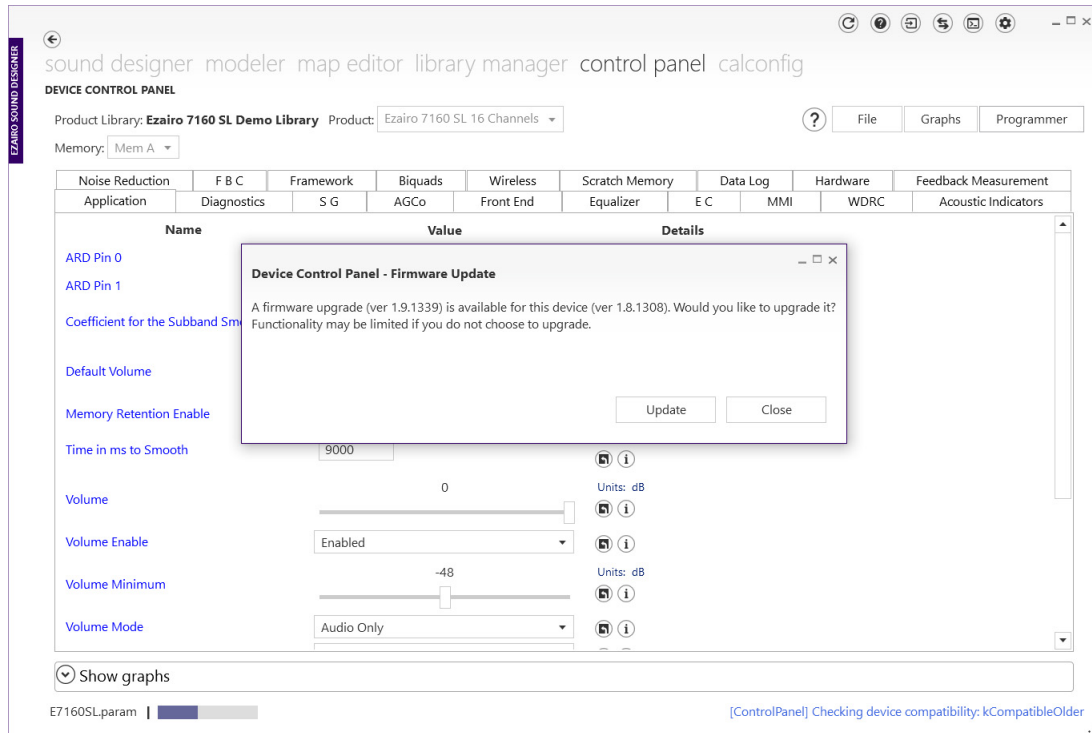

Figure 11. Upgrading the Firmware
9. Before communicating any parameter information, Sound Designer Software checks the device to determine the firmware version currently residing in NVM. If the current version (contained within Sound Designer Software) is not the same as that currently in the device, you are prompted to upgrade the firmware. The prompt screen looks similar to that shown in Figure 11 on page 17.